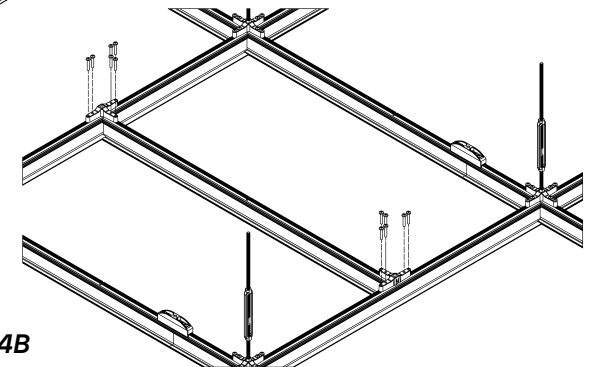

Fig 14B
3.8 Depending on layout, it may be required to install off-module cross tees (**Fig 14**). Secure the cross tee at every intersection using a T-Bracket (DMTB) and the provided 1/4"-20 screws (**Fig 14B**). Screws must be fully seated but not over-torqued, to avoid damage to the threaded channel.